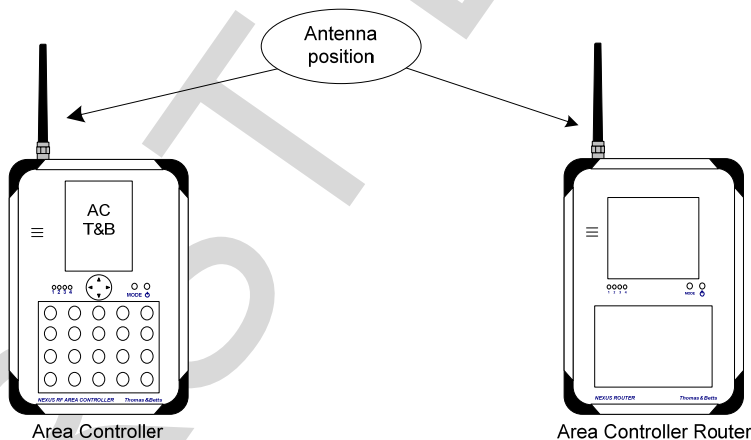

Figure 1
- Turn the AC power OFF. All electrical installations should be performed by qualified personnel. The antenna supplied with this equipment must be installed as shown below in Figure 1.